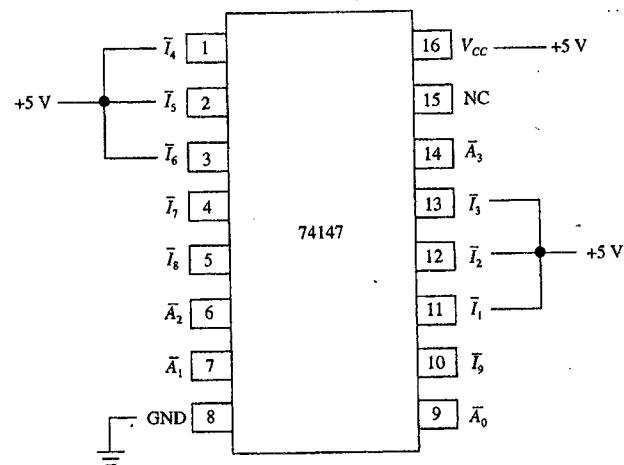
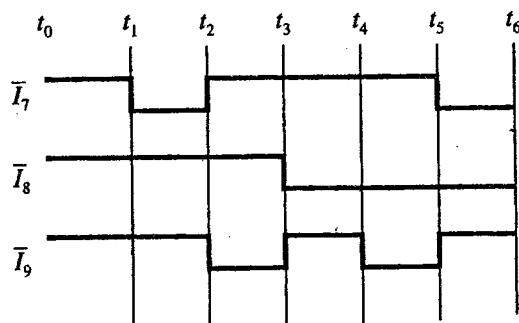

Figure 5a
Figure 5c
- (c) The 74147 shown in Figure 5a is set-up for encoding just three of its inputs (7, 8 and 9). Using the function table from Figure 5b, sketch the outputs at  $\bar{A}_0$ ,  $\bar{A}_1$ ,  $\bar{A}_2$  and  $\bar{A}_3$  as the  $\bar{I}_7$ ,  $\bar{I}_8$ , and  $\bar{I}_9$  inputs are switching as shown in Figure 5c.